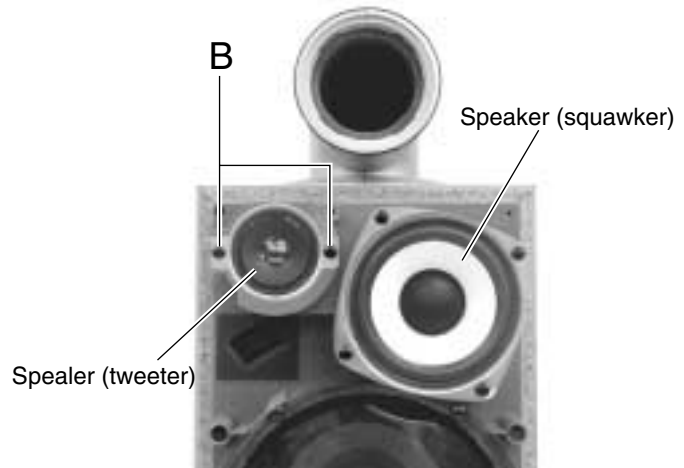

Fig.2
**■ Removing the speaker (tweeter) (See Fig.2)**